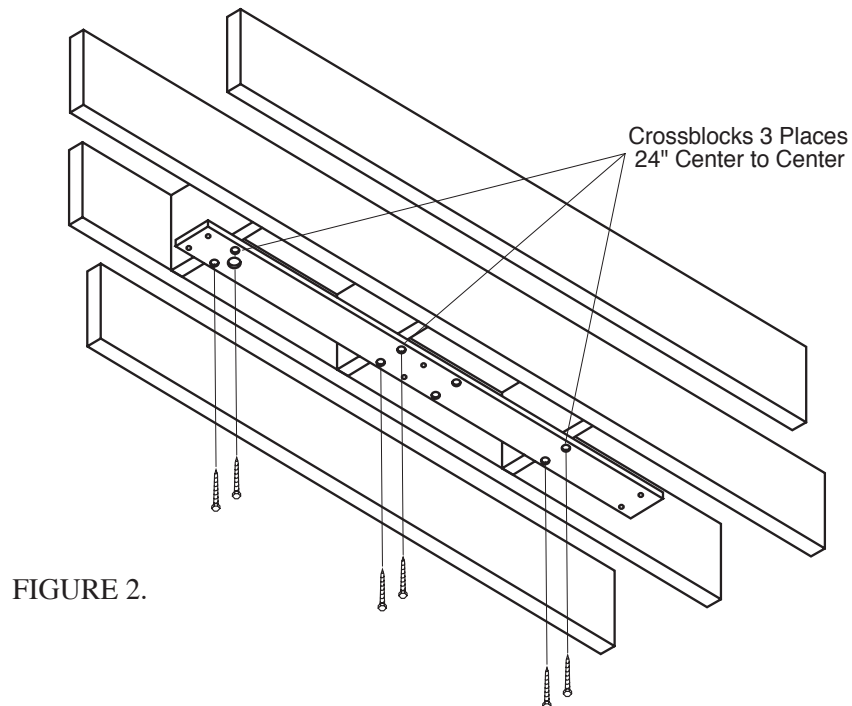

FIGURE 2.
- 2) For conventional ceilings with joists parallel to center line of light, cross blocks must be installed in 3 places to allow mounting with at least 6 - 5/16 x 3" lag screws. (SEE FIGURE 2.)